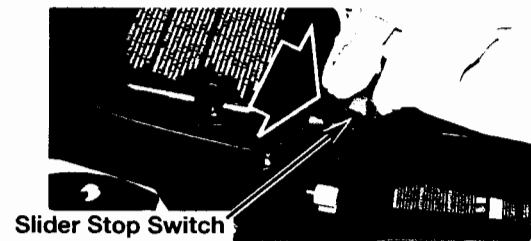
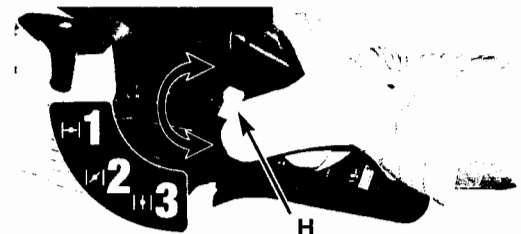

Fig. 4
Fig. 6
4. Slide the slider STOP switch down (Fig. 4). The Blue Lever (H) has 3 positions: Positions 1, 2 and 3 (Fig. 6).
6. Move the lever (H) to **Position 1** (Fig. 6).